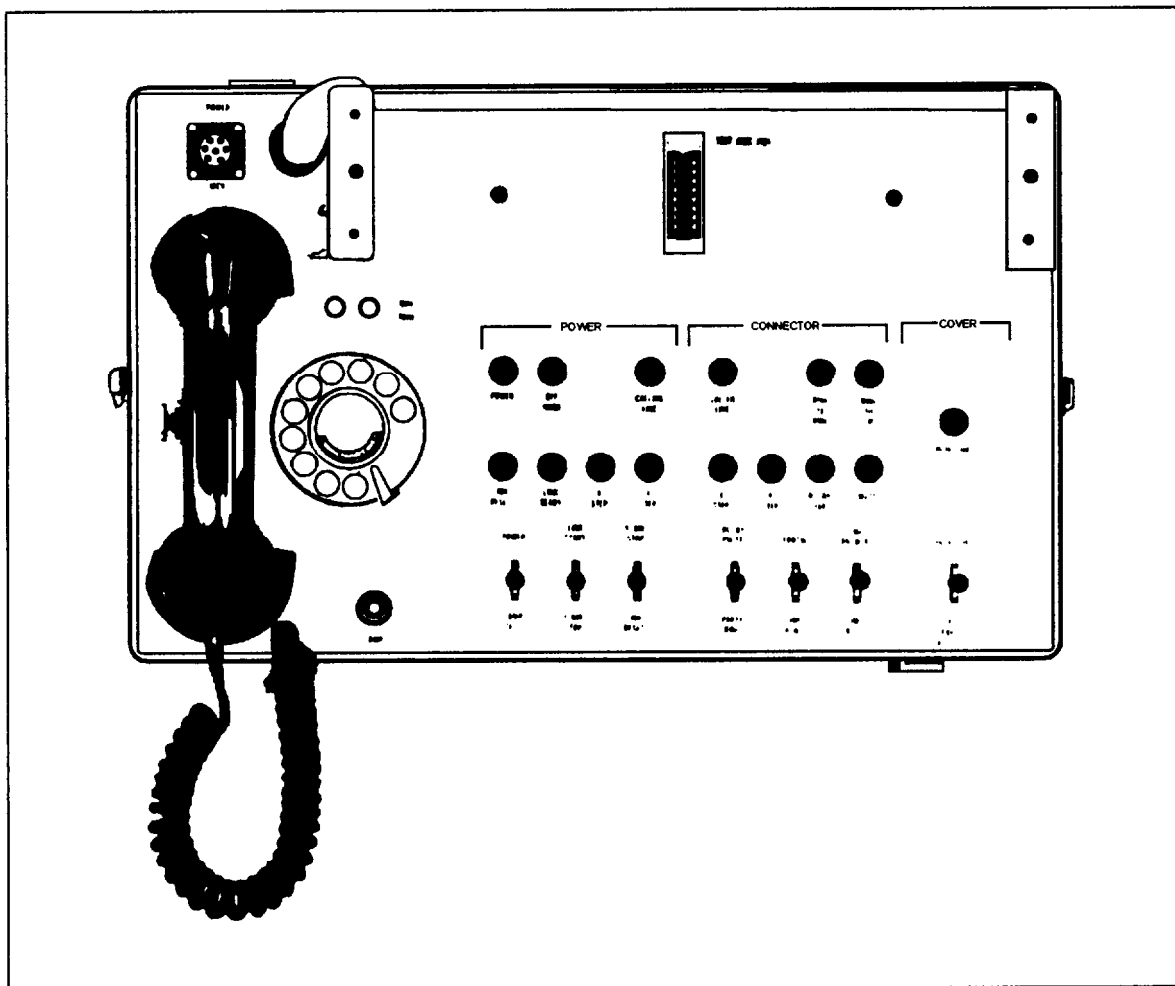

Figure 6-42.—Link panel test set.
**LINK PANEL TEST SET.**— The link panel test set (fig. 6-42) is similar to the common panel test set. It is also used on the 50/100-line system. The one used for the 200/700-line system functions in the same way but has some physical differences. It is used to bench test the link circuit modules. To test the module, the
The control and indicator descriptions shown in table 6-8 correspond to the link panel test set shown in figure 6-42.